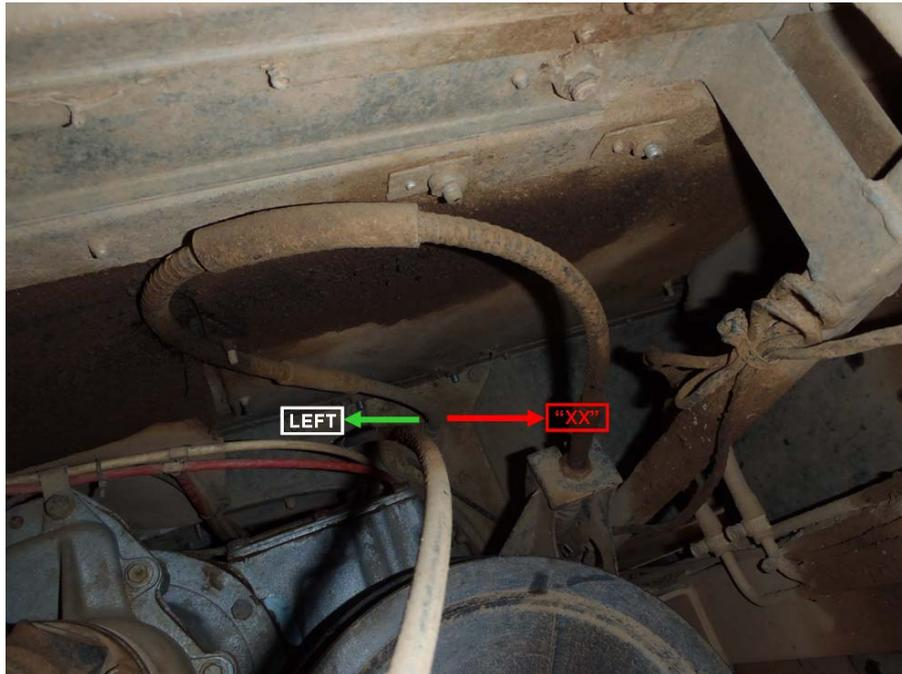

Figure 134 Parking Brake Cable Route
- l. Fit the cable so that it loops left from the handbrake lever heelboard curling right to the transmission bracket as depicted in Figure 134.